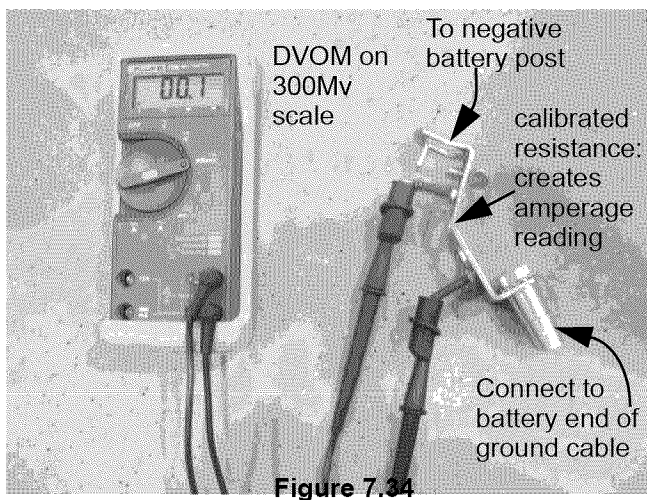

Figure 7.34
- Briggs and Stratton sells a DC Shunt that converts amperage into a reading on the millivolt scale of a DVOM. Briggs and Stratton part # 19359 covers low amperage systems, while part # 19468 tests higher amperage systems. See Figure 7.34.